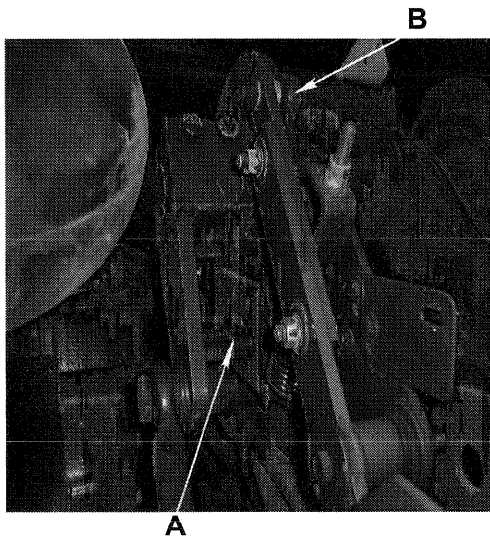

Fig.32
A. Adjust the brake shoe tension springs so that the springs are fully compressed, "A," *Fig.32*
B. The saddle spring is adjusted properly when roller "B" *Fig.32*, is in the notch and there is $1/2"$ (13 mm) of adjusted tension on the saddle lever spring.